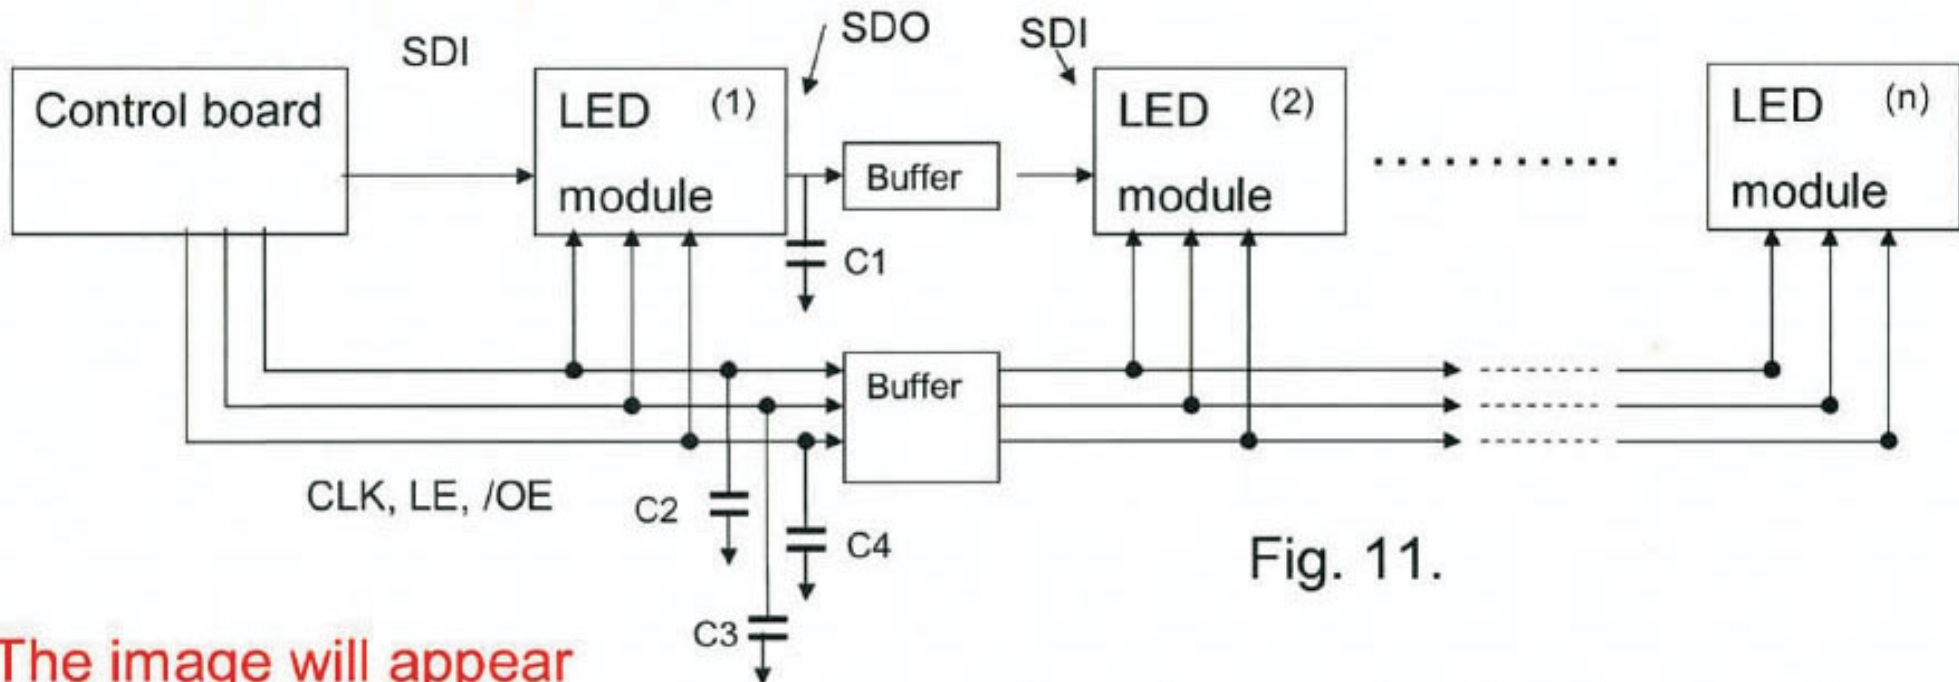

Fig. 11.
- ◆ If V_{DD} and V_{LED} are connected to the same supply voltage source, as shown in Fig. 11(b), V_{DD} will be very noisy.